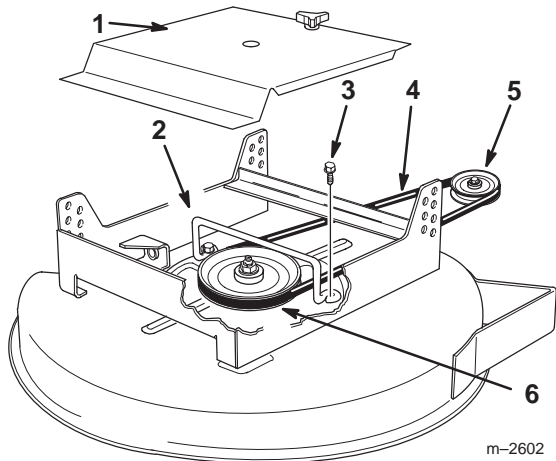

Figure 40
- Grease the fitting on the spindle pulley bearing (Fig. 40).
- Loosen the hand knob holding the mower cover to the top of the mower and remove the cover (Fig. 40).
- Remove the two flange-head bolts holding the belt guide to the top of the mower and remove the belt guide (Fig. 40).
- Install the mower cover onto the cutting unit, then tighten the hand knob (Fig. 40).